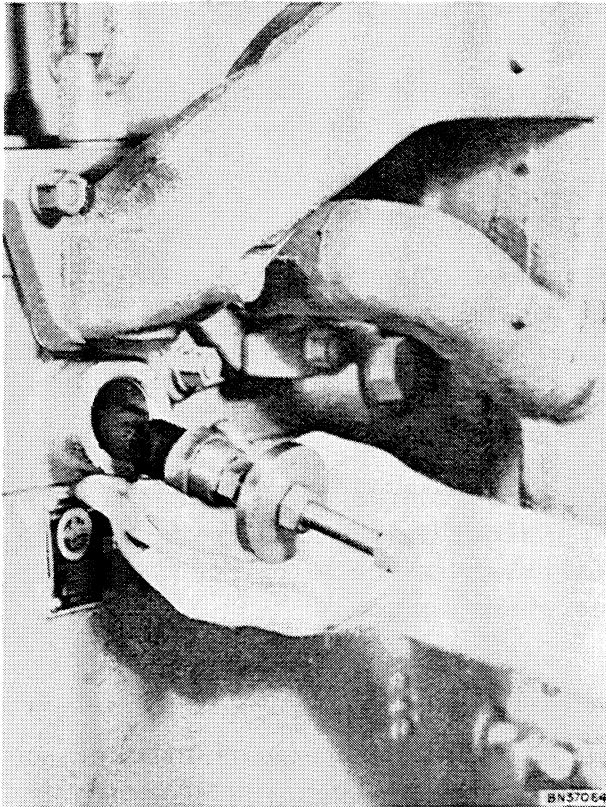

Figure 17 - Pulling Energy Cell With Special Tool
7. Pull the energy cells with special tool as shown in Figure 17.